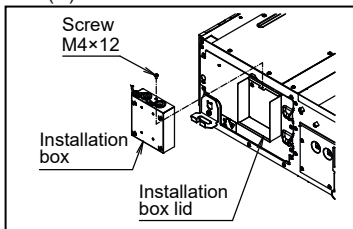

Figure 5
3. Attach the installation box into the installation box lid using the screw M4×12 from accessory (refer to Figure 5).